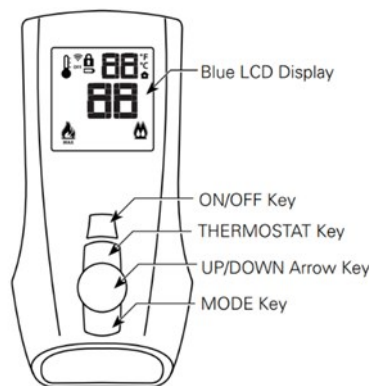
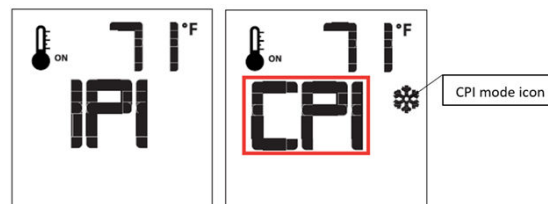

FIGURE 9
FIGURE 13
1. Insert the three (3) provided AAA batteries into the battery bay in the remote. Correctly align polarity (+/-).
3. Push the “ON” button on the remote (**Figure 9**). The control module will beep four (4) times to indicate acceptance of the remote’s command. The system is now synchronized.
With the system in the “OFF” position, press the Thermostat Key and the Mode Key at the same time (**Figure 9**). Look at the LCD screen on the Remote to verify that a C or F is visible to the right of the Room Temperature display (**Figure 11**).
The IPI selection is the intended setting for the appliance operation. If remote is in CPI mode, it must be returned to the IPI mode. To turn it back the remote needs to be OFF. With the system in the OFF position, press the Mode Key (**Figure 9**) once to index to the CPI mode icon. Pressing the DOWN Arrow Key will return to IPI. A single “beep” will confirm the reception of the command (**Figure 13**).